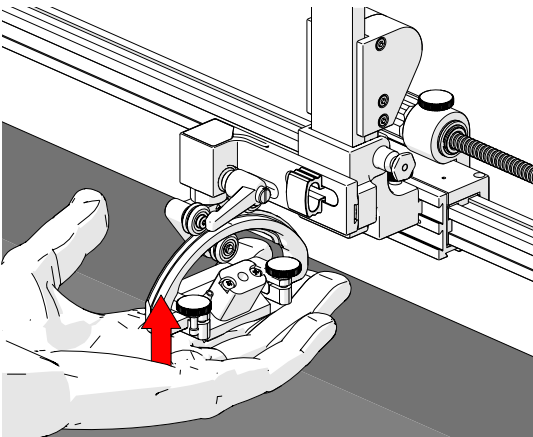

Fig. 211 - Lift probe holder
1. Lift the probe holder slightly to allow the release of the latch pin (Fig. 211).
1. Slightly lift the probe holder (Fig. 211).
4. Slightly lift the probe holder (Fig. 211).